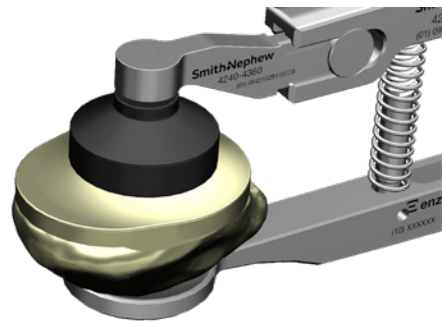

Figure 53
4. Clamp the patellar implant into the bone and remove the extruded cement (Figure 53).